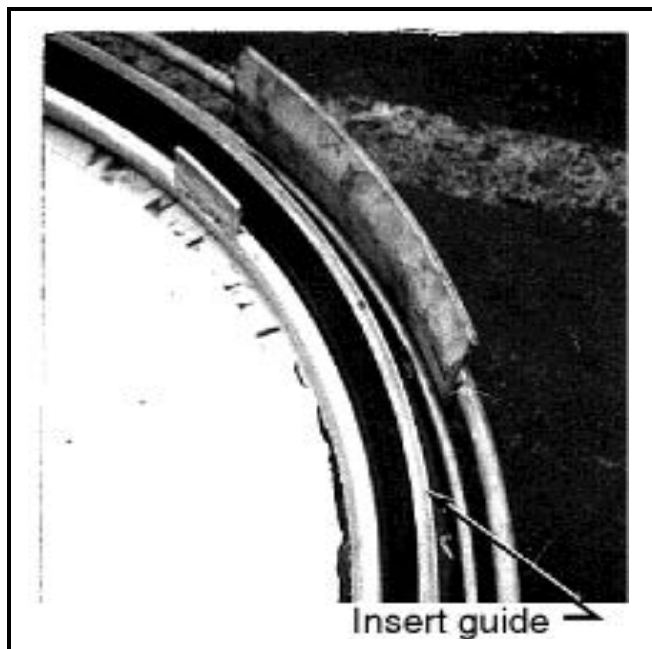

FIGURE 7 (MSSMD423AE)
4. Place the insert guide over the diaphragm as shown in FIGURE 7 so that it is resting on the diaphragm lip. Do not attempt to push it down around the lip.
- Using the throttling valve, slowly lower the bell onto the diaphragm, making certain that it seats properly. The insert guide will constrict the lip of the diaphragm just enough to fit inside the stainless steel diaphragm support ring of the bell (see FIGURE 7). Allow the bell to push completely onto the diaphragm. As it does so, it will push the insert guide down onto the installation fixture as shown below center and right.